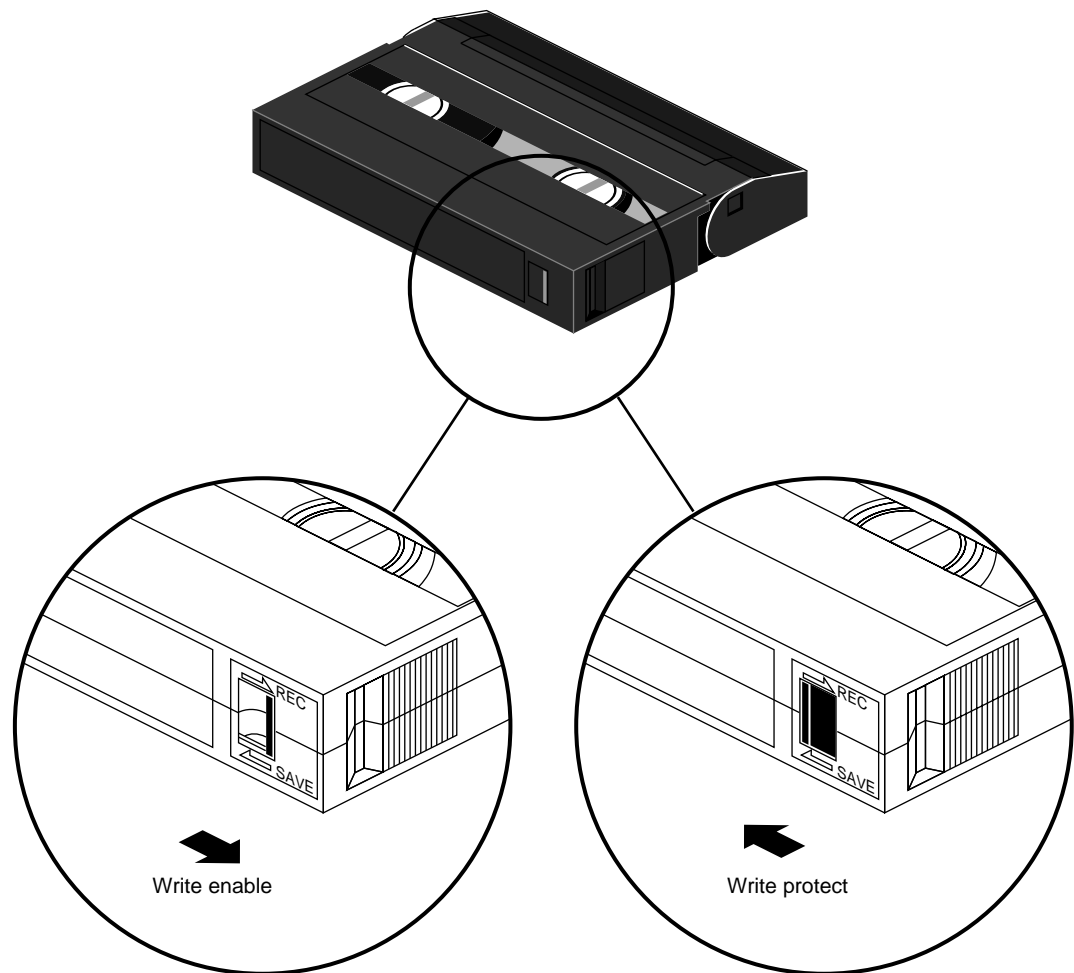

Figure 1-6 Write-Enable/Disable Switch
1. Locate a data cartridge that does not contain any valuable information and make sure that its write-protect switch is set to write-enable (see Figure 1-6).
Before loading a data cartridge in the tape drive, make sure that the write-protect switch on the cartridge is set correctly for the desired operation (see Figure 1-6 in Chapter 1). You can use a ball-point pen or similar instrument to set the write-protect switch, as shown.